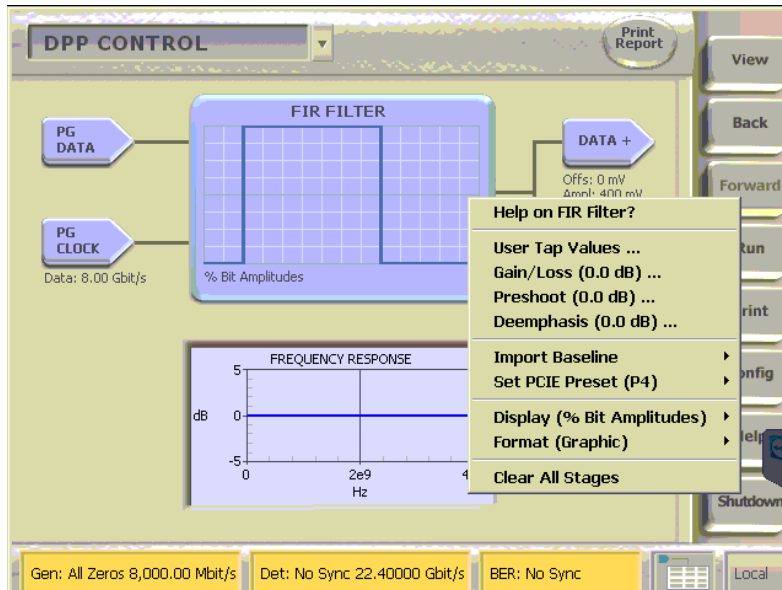

FIGURE 38. BERTSCOPE SETUP
6. Default the DPP to 0.0dB Preshoot and Deemphasis, as shown in Figure 38.